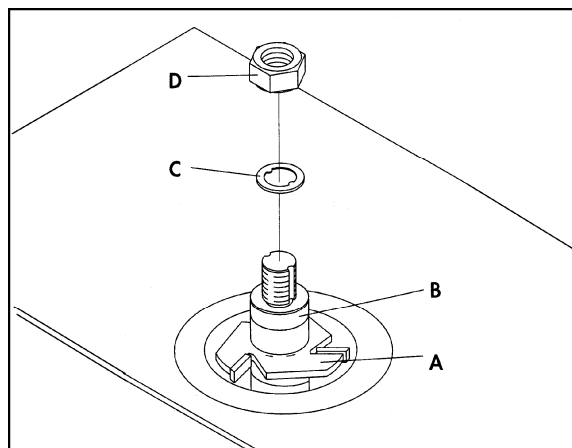

Figure 6
2. Place cutter (A, Figure 6) and desired spindle collars (B, Figure 6) on the spindle as shown.
3. Install keyed washer (C, Figure 6) and tighten nut (D, Figure 6) using the supplied wrench.
⚠ WARNING Always place the keyed washer (C, Figure 6) on the spindle before threading the nut. Failure to comply may cause serious injury.